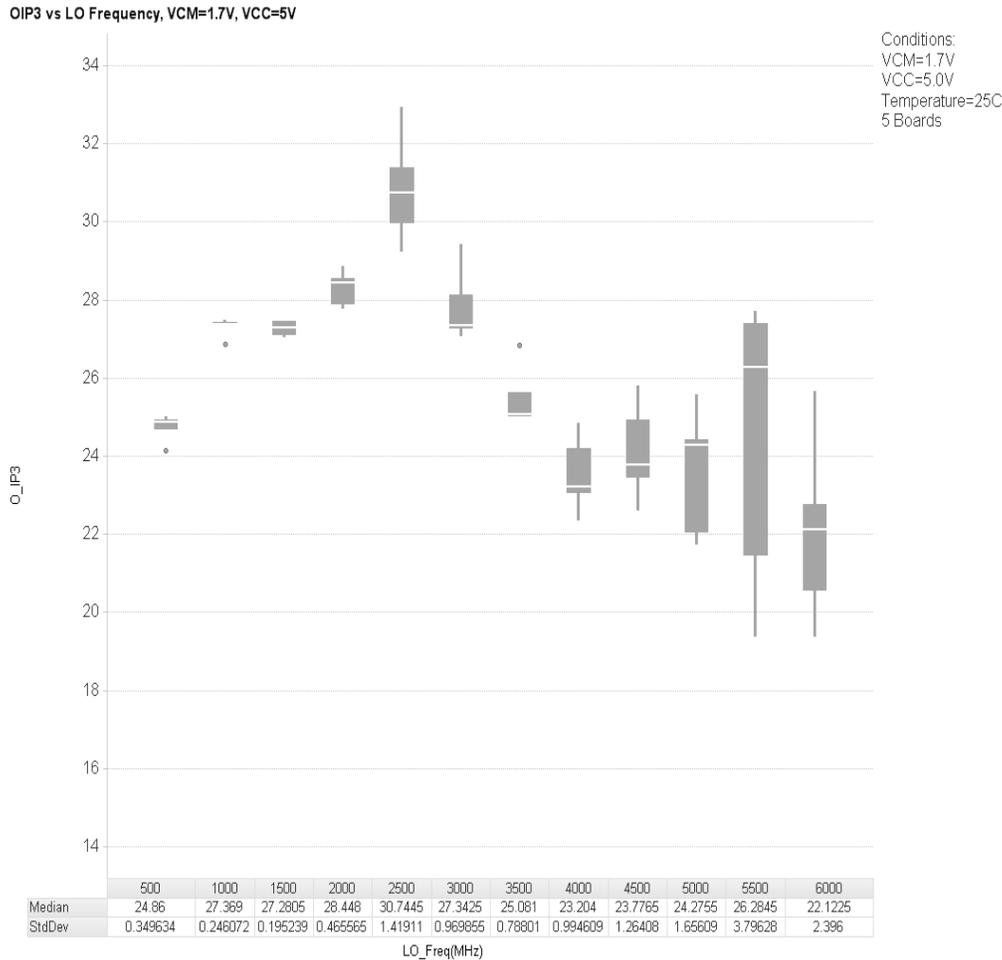
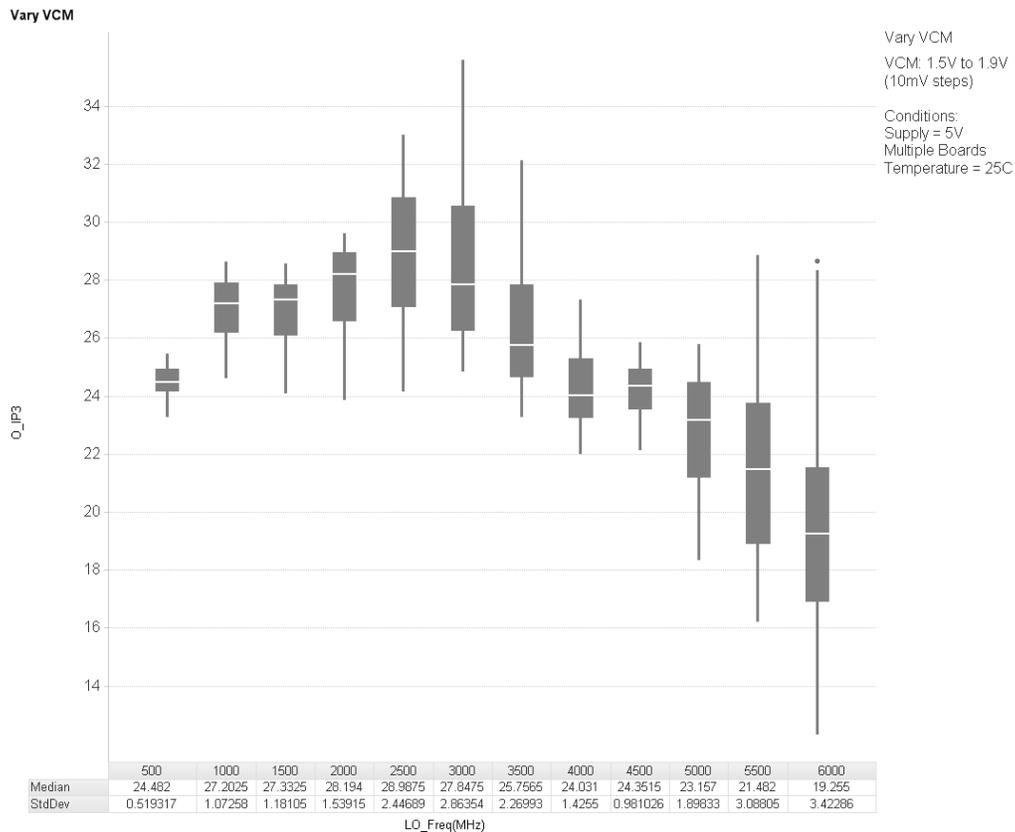
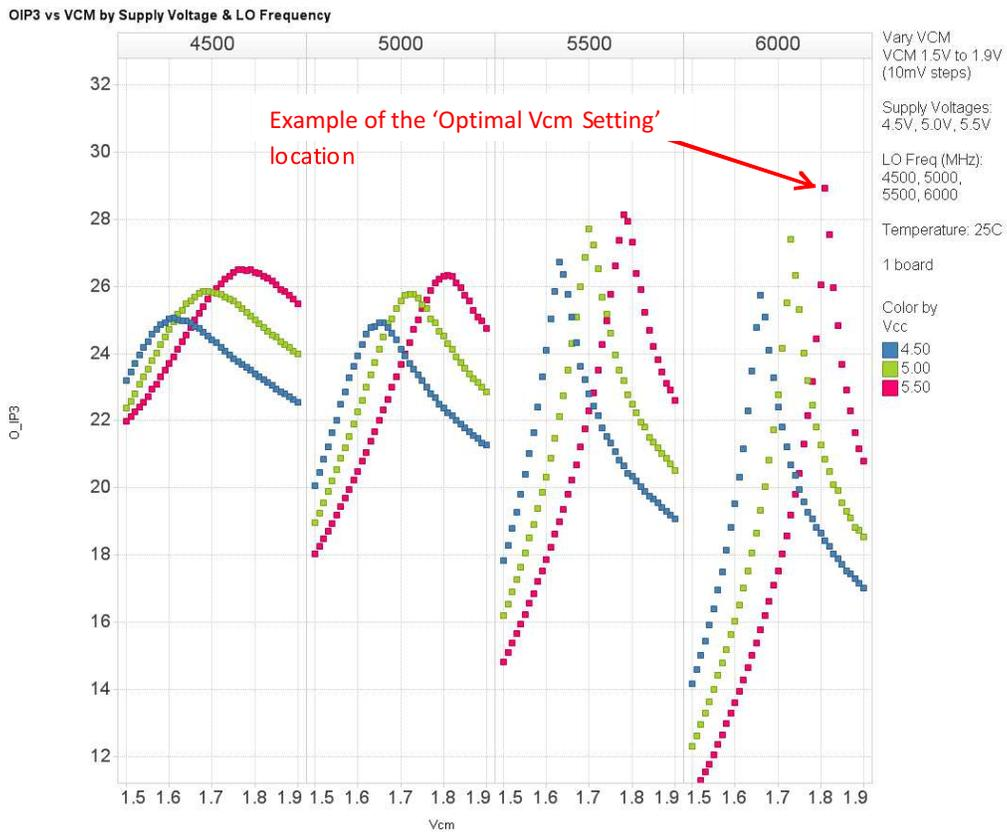
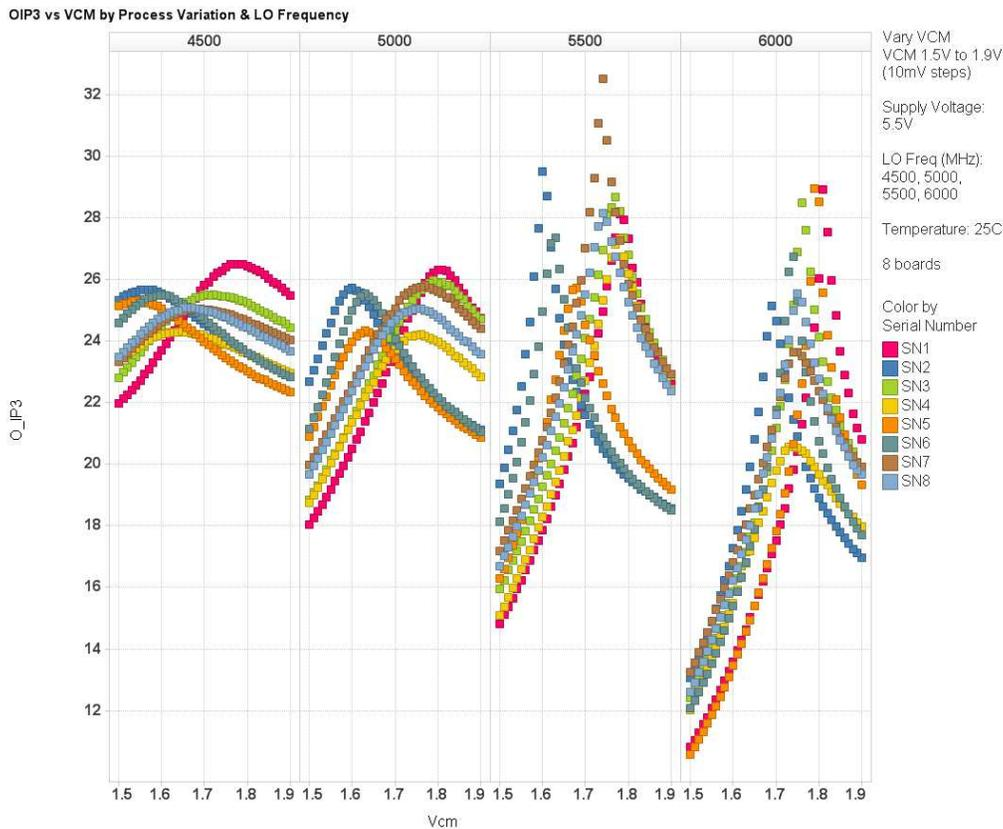

Figure 3. OIP3 vs LO Frequency With Vcm = 1.7 V
Figure 4. TRF3704 OIP3 vs LO Frequency Baseband Vcm Varied From 1.5 V to 1.9 V
Figure 5. TRF370417 OIP3 vs Vcm at LO Frequencies (MHz) = 4500, 5000, 5500, 6000 at Supply Voltages (V) = 4.5, 5.0, 5.5
Figure 8. TRF370417 OIP3 vs Vcm - Process Variation at LO Frequencies (MHz) = 4500, 5000, 5500, 6000
Using the TRF370417 datasheet’s recommended baseband input Vcm of 1.7 V, Figure 3 displays the OIP3 vs LO frequency performance curves for 5 units from 3 FAB lots. The significance of Figure 3 is that with a small amount of process variation, LO frequencies beyond 4.5 GHz show OIP3 results 5 dB less than the datasheet typical of 25 dBm.
As a result of the data represented in Figure 3, experiments on increasing optimization of OIP3 performance across the LO frequency range were developed. Figure 4 displays OIP3 for Vcm levels varied from 1.5 V to 1.9 V in 10-mV steps across several LO frequencies. The significance of Figure 4 is that for LO frequencies beyond 4.5 GHz there is a Vcm voltage providing datasheet-typical numbers for OIP3. However, as will be shown, this optimal Vcm voltage is not always 1.7 V as recommended in the datasheet.
The goal of Figure 5 through Figure 8 is to identify trends in the optimal Vcm setting vs supply voltage, temperature, process variation and baseband input voltage.
Figure 5 demonstrates a typical trend seen for OIP3 vs Vcm by supply voltage and LO frequency. In Figure 5, there are 4 LO frequencies plots: 4.5GHz, 5GHz, 5.5GHz and 6GHz. The optimal Vcm setting is defined as the maximum OIP3 value across a Vcm sweep for a fixed set of supply, LO frequency, temperature and baseband input voltage conditions. There are 2 trends seen in Figure 3. Trend 1 shows for higher supply voltages, the OIP3 value improves at the optimal Vcm setting. Trend 2 shows as the supply voltage increases, the Vcm voltage required to generate the optimal Vcm setting increases.
Figure 8 shows that the optimal Vcm setting varies with process variations. This implies that to obtain optimal OIP3 performance, perform a unique Vcm calibration on each unit.
1. Set $V_{CC} = 5.5\text{ V}$, see Figure 5
2. Power the TRF370417 with a low drift supply, see Figure 5
4. Implement a OIP3/Vcm calibration procedure, see Figure 5 to Figure 8, and sections Section 3 and Section 4